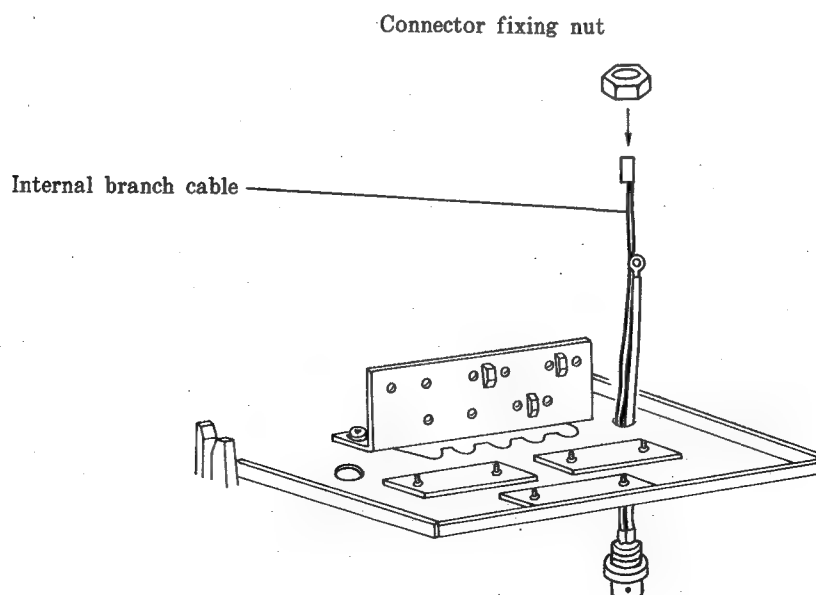

Fig. 28
- (6) Fix the internal branch cable connector to the cable fixing plate as follows: (See Fig. 28.)